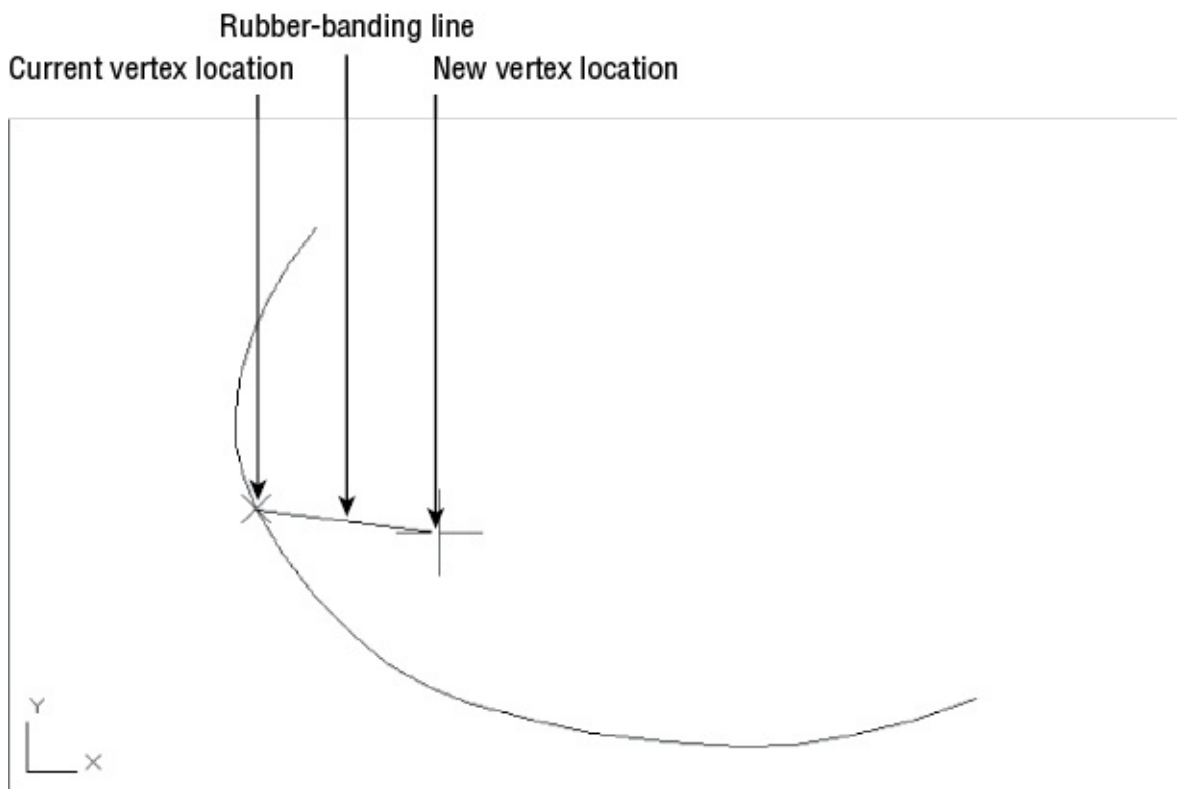

FIGURE 18.11 The new vertex location
5. When the prompt Specify location for new vertex: appears, along with a rubber-banding line originating from the current X position (see Figure 18.11), pick a point indicating the new vertex location. The polyline is redrawn with the new vertex.
in Figure 18.11), pick the new vertex. The polyline is redrawn (see the second image in Figure 18.13). Again, if the line is curved, the new vertex appears as a sharp angle until you use the Fit option (see the final image in Figure 18.13).